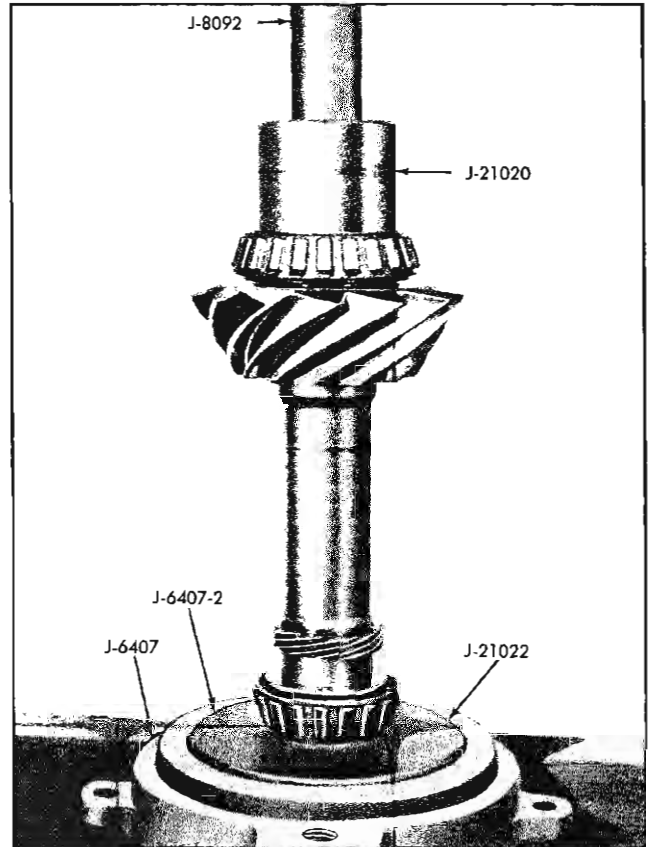

Fig. 4-45 Installing Front Pinion Bearing
3. Press on front pinion bearing using J-21022 in J-6407 holder and J-8092 handle with J-21020 adapter (Fig. 4-45).